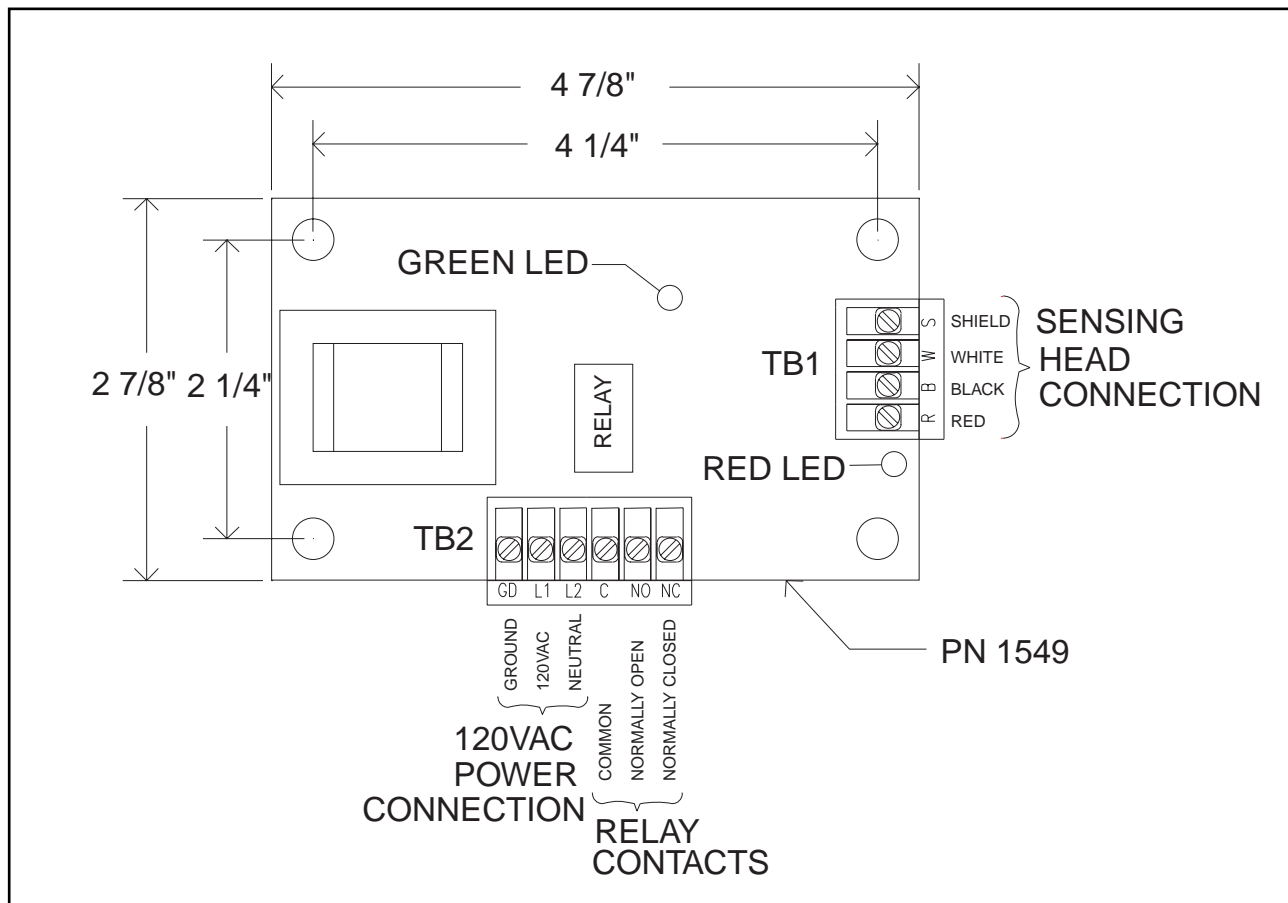
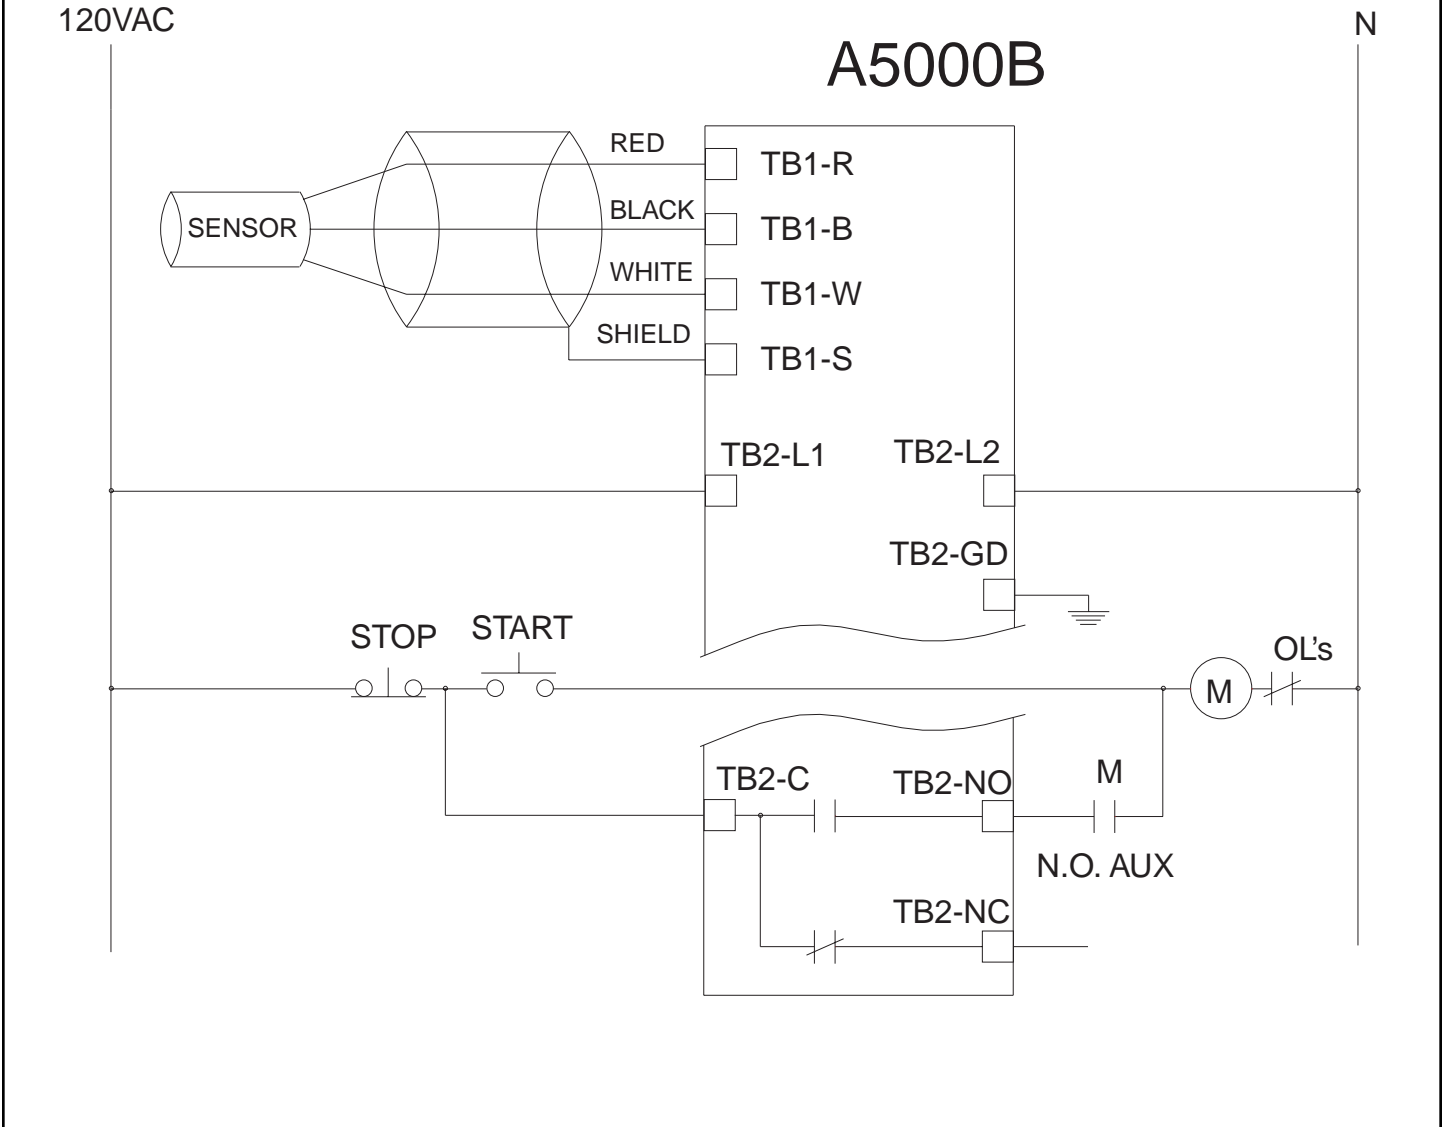

Figure 5
Figure 6
5.1 Power connections and relay connections to the A5000B Zero Speed Switch are shown on figure 5, page 5. Also, figure 6 & 7, page 6 & 7 show typical wiring diagrams.
5.2 Connect 120 VAC power to L1 and L2 on terminal block TB2. Connect the equipment safety ground to the GD terminal on terminal block TB2. (see figure 5, page 5)
5.3 Make relay connections to appropriate terminals on terminal block TB2. (see figure 5, page 5)